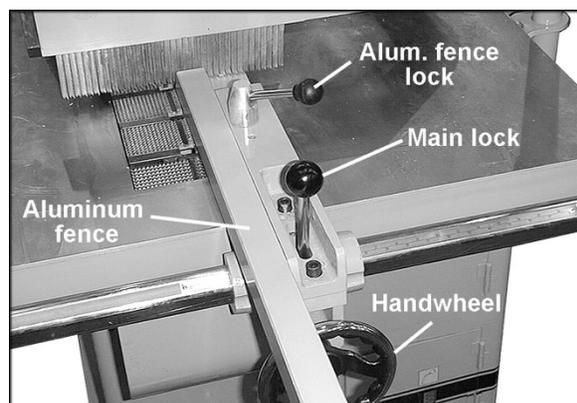

Figure 9
1. Slide the fence casting onto the end of the guide bar while pulling back the main lock handle (Figure 9).